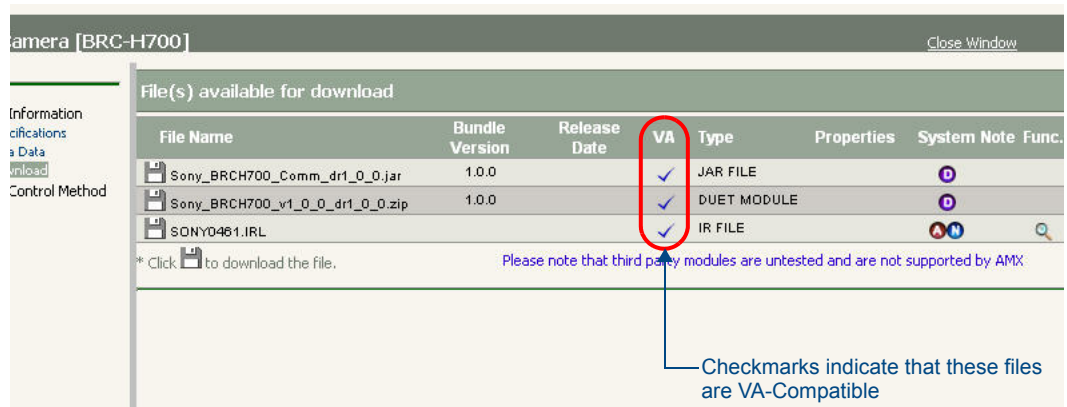

FIG. 76 InConcert Resource Center - Download page
1. In the *Device Model Details* dialog, select **Download**, under *Model Information* on the left side of the dialog to access the Download page for the selected device (FIG. 76):